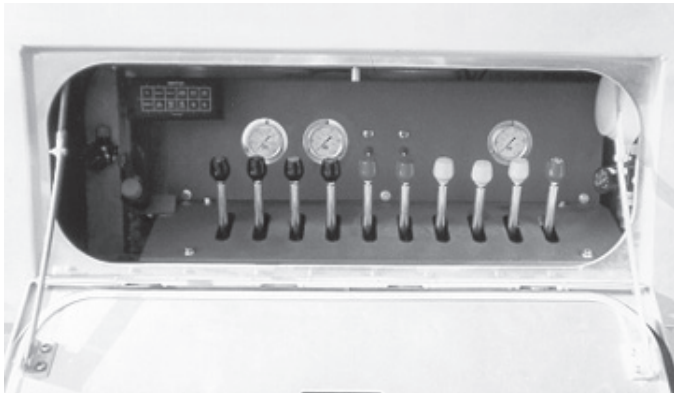

FIGURE 3.1
- 3.3 Each function of the Wrecker can be controlled from either of the dual Control Stations located at the rear of the wrecker body. See Figures 3.1 and 3.2.
- 3A.2** Each function of the Underlift can be controlled from the Control Station located in the left rear compartment of the body, or from the Hand Held Remote Control Unit located in the right rear compartment. Refer to Figures 3.1 and 3.2.